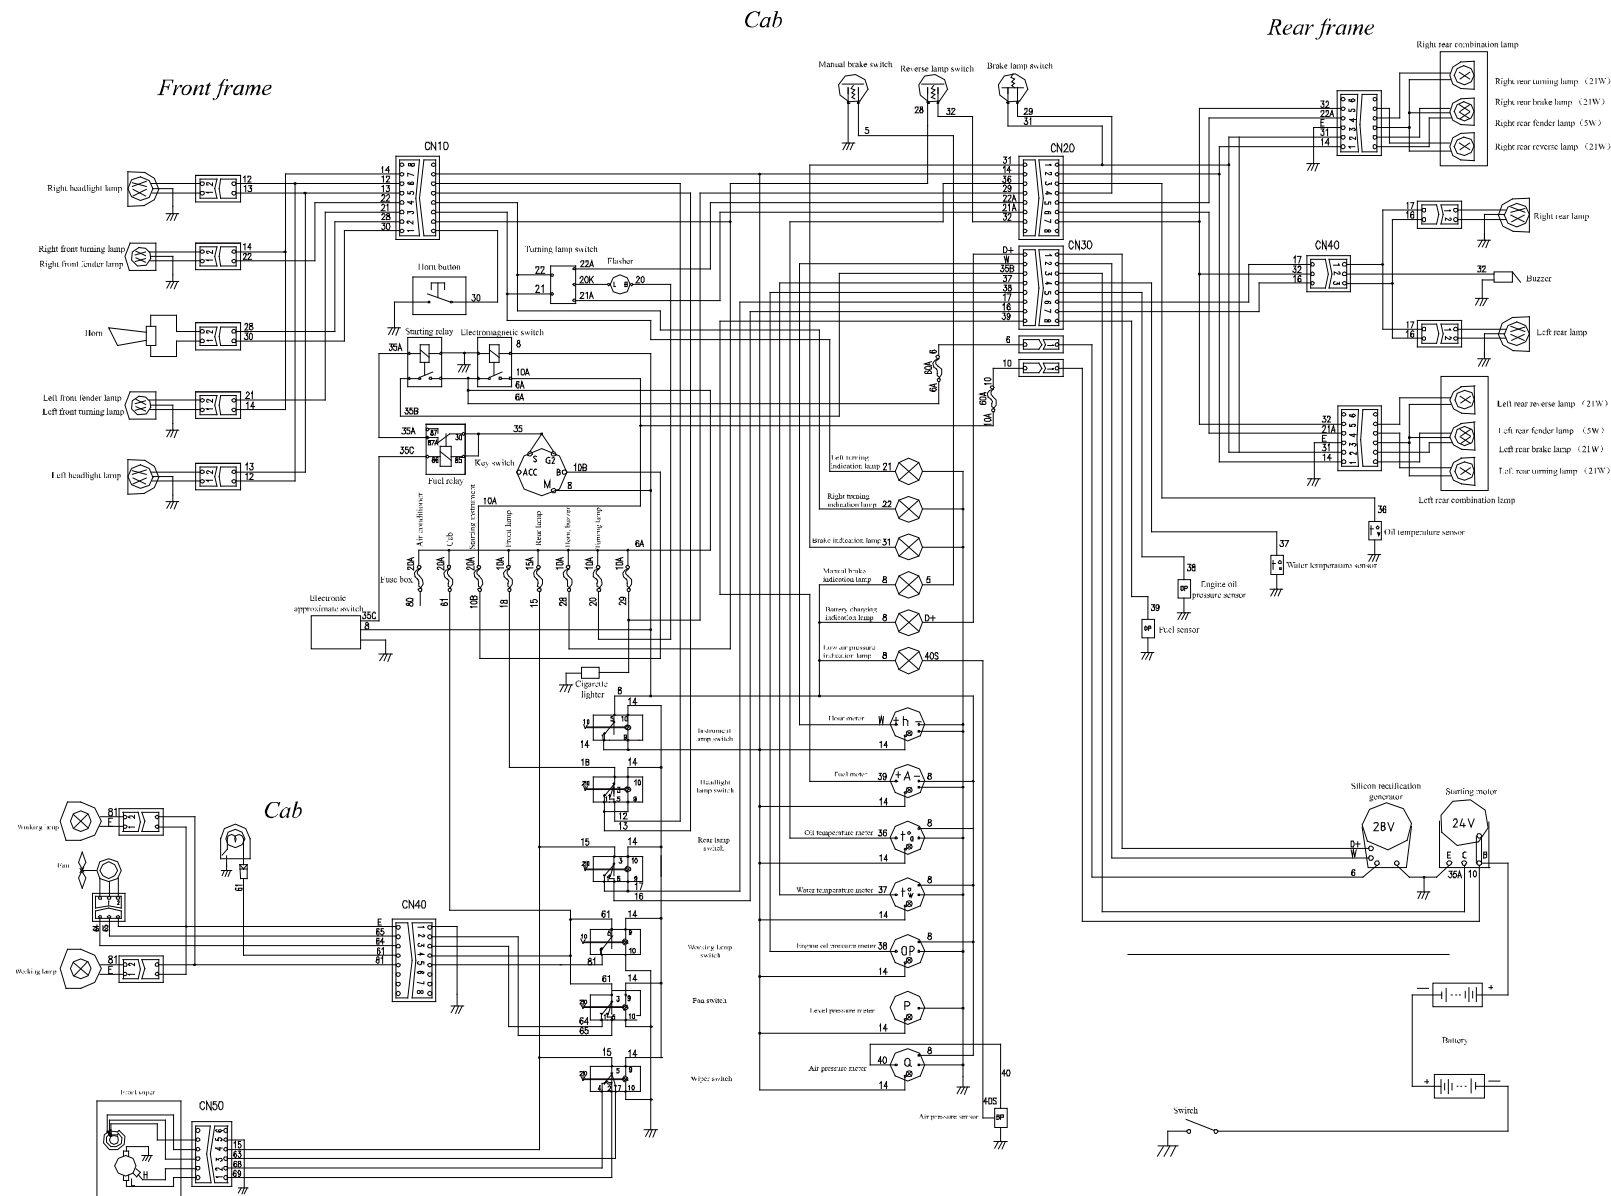

Fig. 7 – 27 Principle figure of electric system
- (2) Bucket cylinder (Fig. 7 – 25): cylinder diameter ϕ 180mm, rod diameter ϕ 90mm, stroke 528mm, installation size 1052mm (min.), installation size 1580mm (max.)
- (3) Operating oil tank (Fig. 7 – 26): the operating oil tank, mounted in the back of cab, is used for both operating hydraulic system and steering hydraulic system. The two oil filters are mounted in the oil tank to ensure the clearness of oil liquid.
- (2) The filter in oil tank shall be cleared for every month.
- (3) Depending on the actual situation, the related hydraulic parts shall be cleared for one year within one year.
- (4) When the steering hydraulic system and operating hydraulic system are maintained, the screw plug in the operating oil tank shall be loosened (See #3 in Fig. 7 – 26) to prevent the hydraulic oil from leaking out.
The electricity system is shown in Fig. 7 – 27.
Cooling function: Refer to figure 7 – 29 for principle figure, Freon (R-12) is taken as cooling medium, the compressor compress the sucked overheated Freon steam into high temperature and high pressure gas which enters into the condenser through pipe, it becomes overcooled liquid after sufficiently cooled, then enter into evaporator through expansion valve after pressure reduction, realize evaporation in inner area and absorb heat, the inner side of the evaporator is equipped with a fan which can exhaust wind through the evaporator, so wind blowing through the port is cold wind, heat is brought away by Freon gas, it is sucked by the compressor again and enters into circulation again, continuously repeat, temperature of the cab is finally reduced down so as to realize cooling purpose.